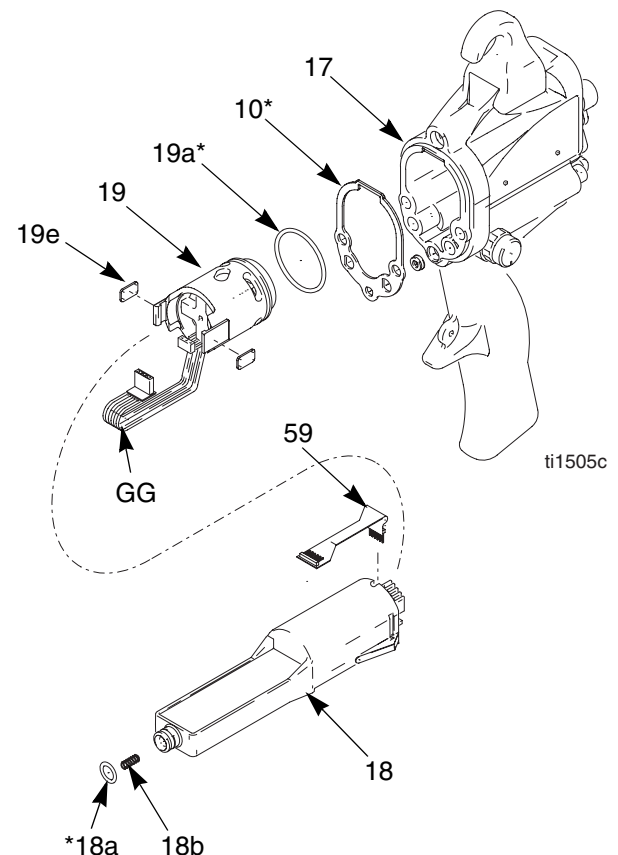

Fig. 30. Power Supply
3. Grasp the power supply (18) with your hand. With a gentle side to side motion, free the power supply/alternator assembly from the gun handle (17), then carefully pull it straight out. *On Smart Models only*, disconnect the flexible circuit (59) from the socket at the top of the handle (17). See FIG. 30..
4. Disconnect the 3-wire connector (GG) from the power supply. Slide the alternator up and off the power supply. Inspect the power supply and alternator for damage. *On Smart Models only*, disconnect the 6-pin flexible circuit (59) from the power supply.